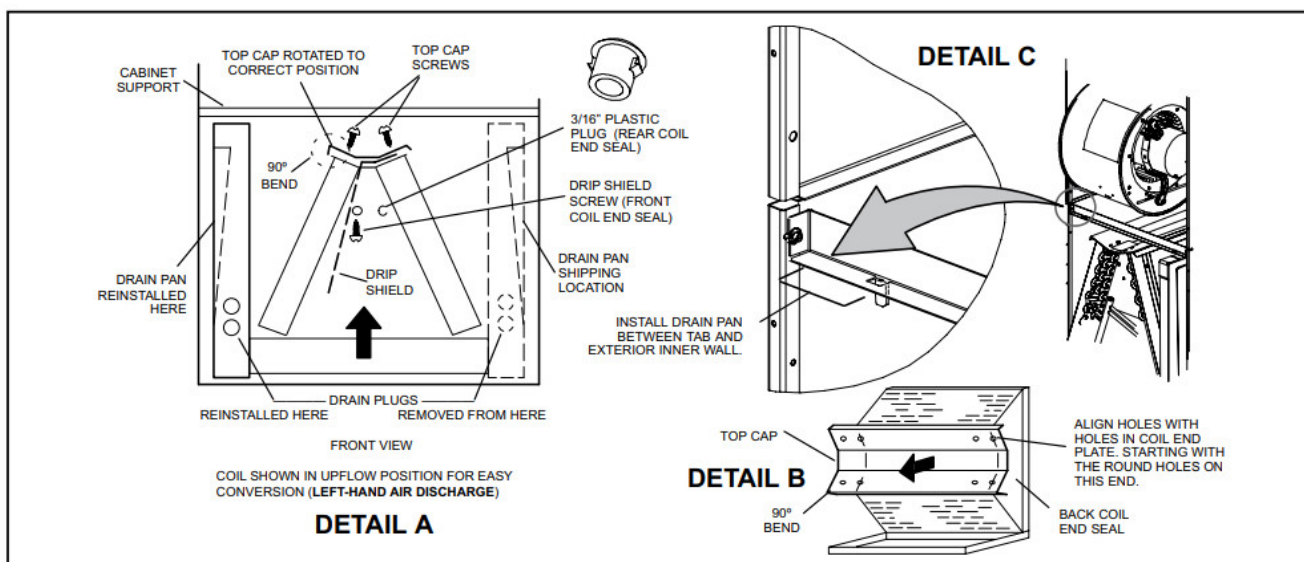

Figure 5. Field Modification for Left-Hand Discharge
5. Remove screws from top cap. Remove drip shield screw located in the center of the back coil end seal as illustrated in Detail A in Figure 5.
8. Rotate top cap 180° front-to-back and align with unused screw holes. Holes must align with front and back coil end plates (see Detail B in Figure 5). The top cap has a 45° bend on one side and a 90° bend on the other. The 90° bend must be on the same side as the horizontal drain pan as illustrated in Detail A in Figure 5.